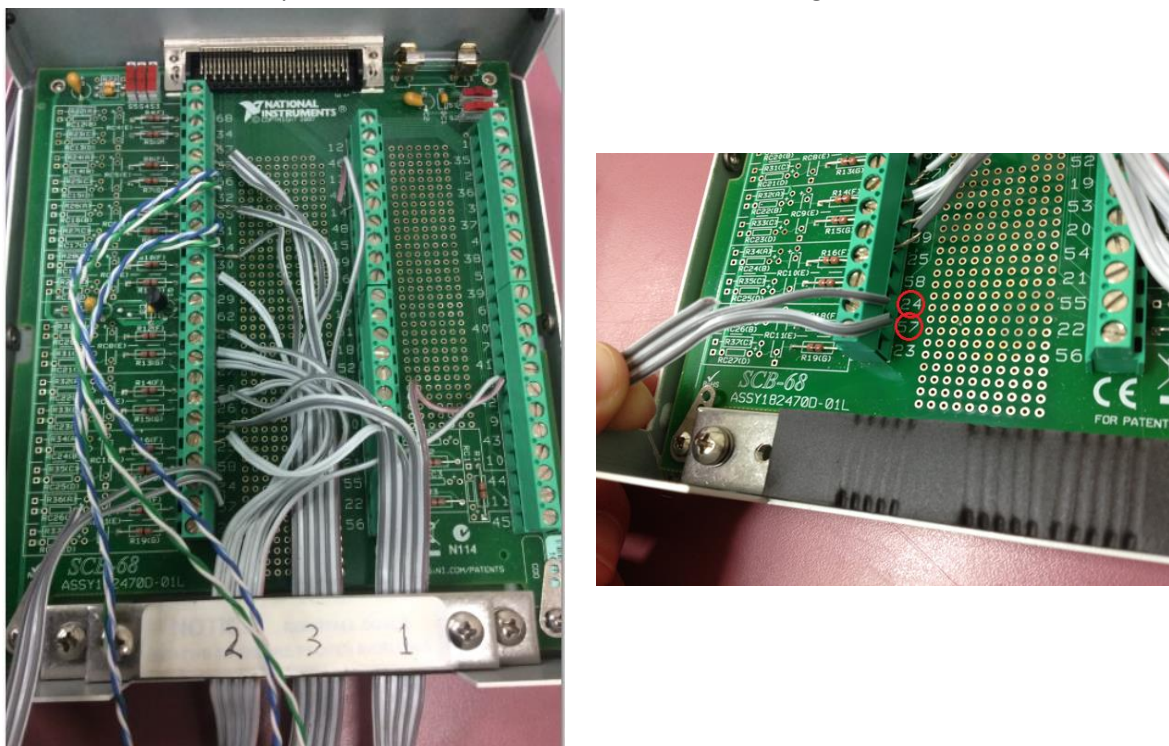

Figure 6-3
- Plug in the wires using the same screwdriver method described in step 1. The finished view on the SCB-68 box and closed-up view of sLVDT1 connection are shown in Figure 6-3.